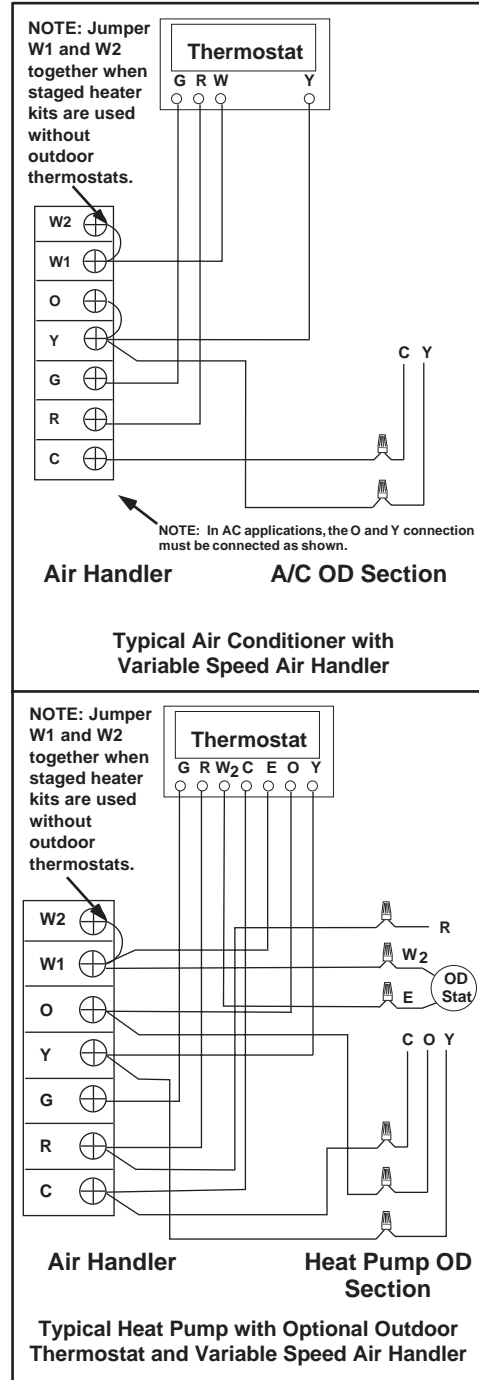

Figure 1. Typical Air Conditioning and Heat Pump System Connections
13. Connect the thermostat wiring as shown in **Figure 1**.